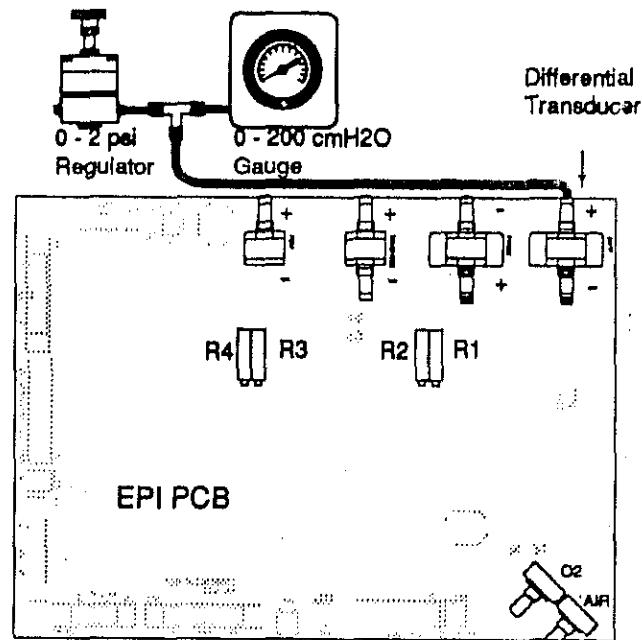

Figure 5-4
7. Connect the Differential Transducer as shown in Figure 5-4 and apply 40 \pm 5 cmH₂O pressure.
11. Connect the Differential Transducer as shown in Figure 5-4 except to the opposite port (negative) and apply 95 \pm 5 cmH₂O pressure.